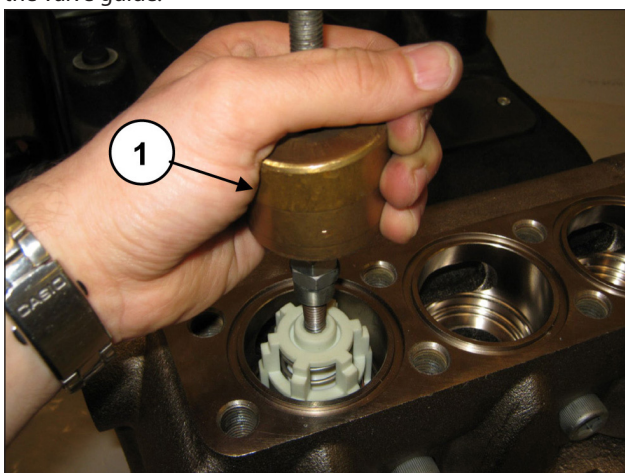

Fig. 141
Extract the outlet valve unit with the use of an extractor hammer (code 27516400) to be applied on the M10 hole of the valve guide (pos. ①, Fig. 141) or, in addition, an M10-M16 adapter (code 25089700) to be attached to the M16 thread of the valve guide.